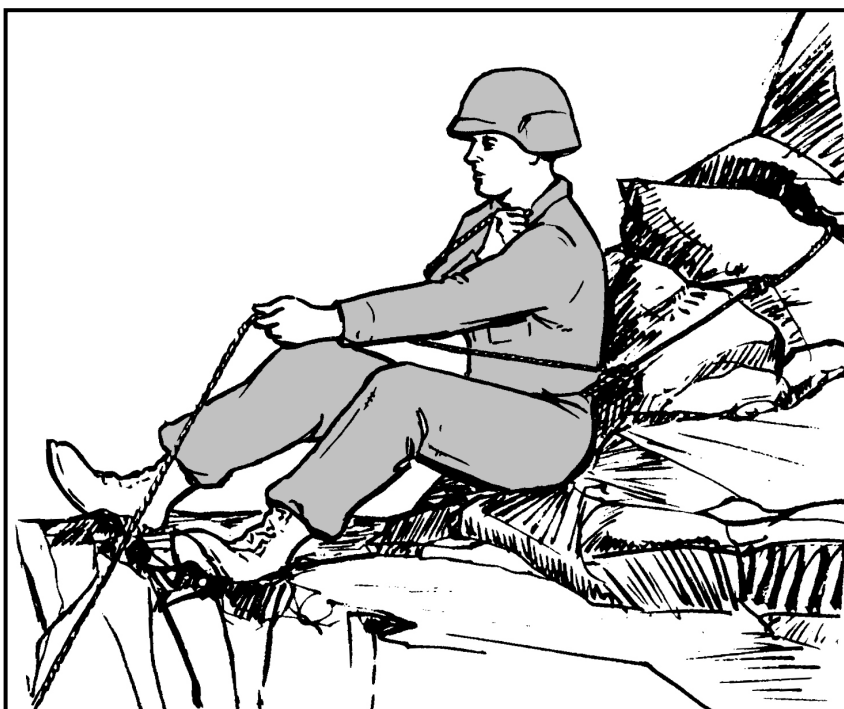

Figure 6-22. Sitting body belay.
(1) ***Sitting Body Belay.*** The sitting body belay is the preferred position and is usually the most secure (Figure 6-22). The belayer sits facing the direction where the force of a fall will likely come from, using terrain to his advantage, and attempts to brace both feet against the rock to support his position. It is best to sit in a slight depression, placing the buttocks lower than the feet, and straightening the legs for maximum support. When perfectly aligned, the rope running to the climber will pass between the belayer's feet, and both legs will equally absorb the force of a fall. Sometimes, the belayer may not be able to sit facing the direction he would like, or both feet cannot be braced well. The leg on the "guide hand" side should then point towards the load, bracing the foot on the rock when possible. The belayer can also "straddle" a large tree or rock nubbin for support, as long as the object is solid enough to sustain the possible load.